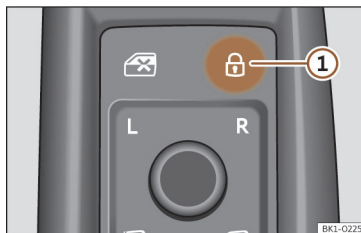

Fig. 74 On the driver's door: central locking button.
- Lock: press the button >>> Fig. 74.
- Unlock: Press the button >>> Fig. 74 again.